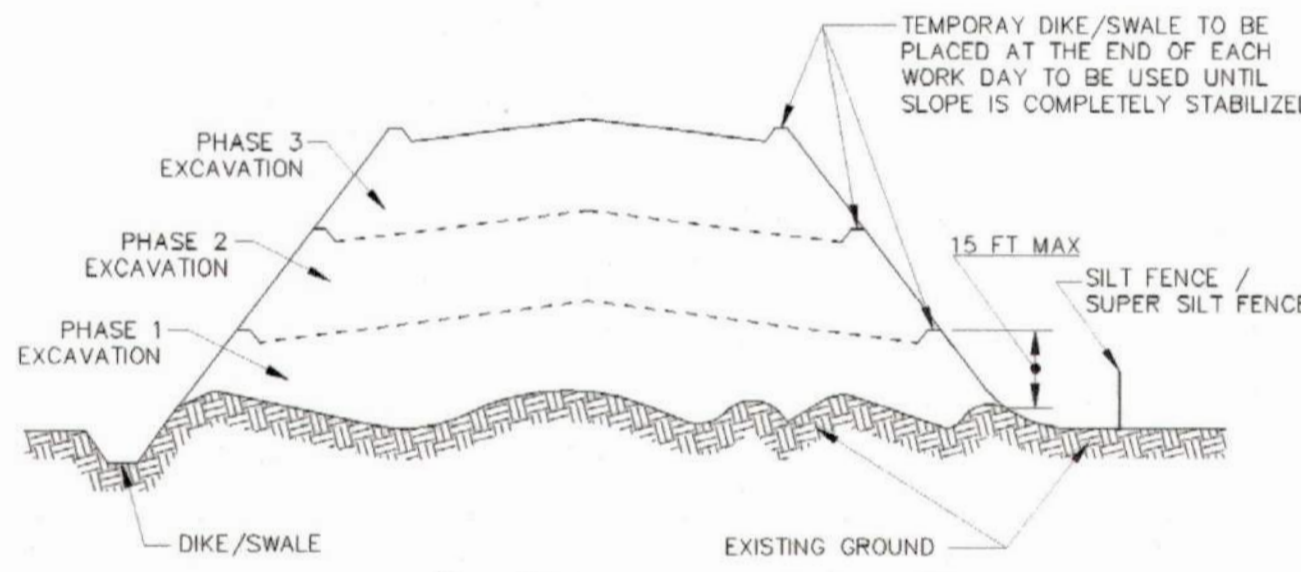

Figure B.2: Incremental Stabilization - Fill
- CONSTRUCTION SEQUENCE EXAMPLE (REFER TO FIGURE B.2):